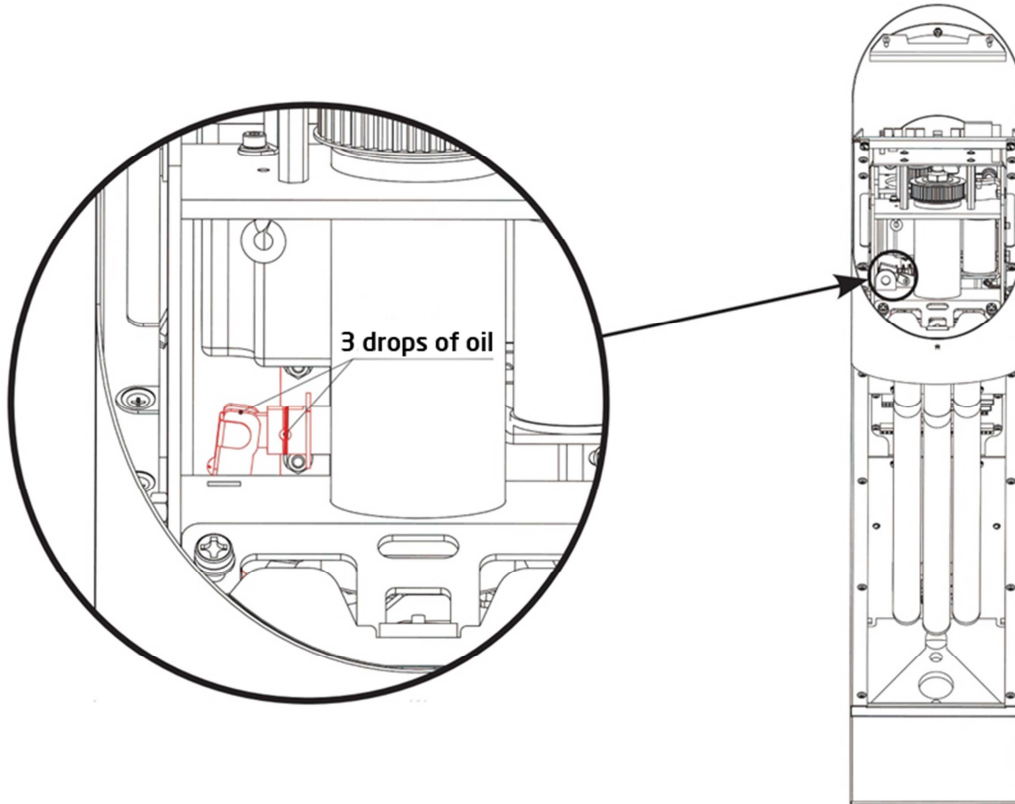

Fig. 13 Central stand of turnstile
5.3. Clip between the stopper unit and the solenoid (Fig. 13).
Elements of the unit are located behind the roller lever shown on Fig. 13